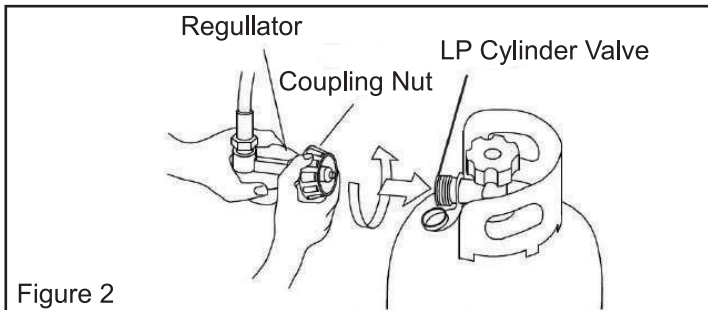

Figure 2
2. To connect LP cylinder, insert regulator end fitting into cylinder valve, rotate coupling nut clockwise and tighten firmly (see Figure 2).